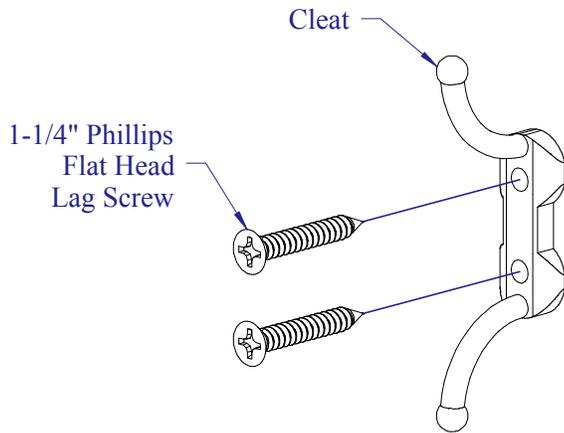

Fig. 2-1
- Finally, mount the cleat at the desired location using (2) 1-1/4" phillips head lag screws (see Fig. 2-1). We recommend placing the cleat approximately two-thirds of the way down from the top of the curtain.